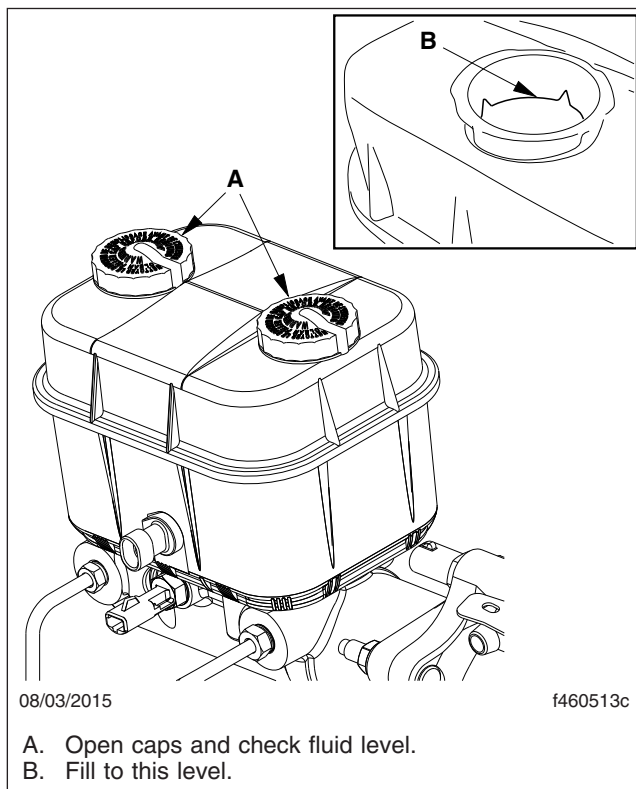

Fig. 15, Hydraulic Brake Fluid Reservoir (Bosch reservoir shown, Bendix reservoir similar)
1. Check the fluid level in the hydraulic brake fluid reservoir. If needed, fill the reservoir up to the bottom of the fill-neck. See Fig. 15. Use only heavy-duty brake fluid, DOT 3.